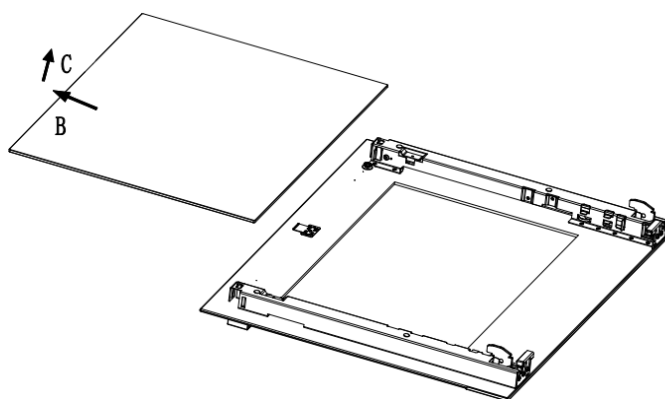

Fig.6
4. Take out middle glass. (Fig.6)